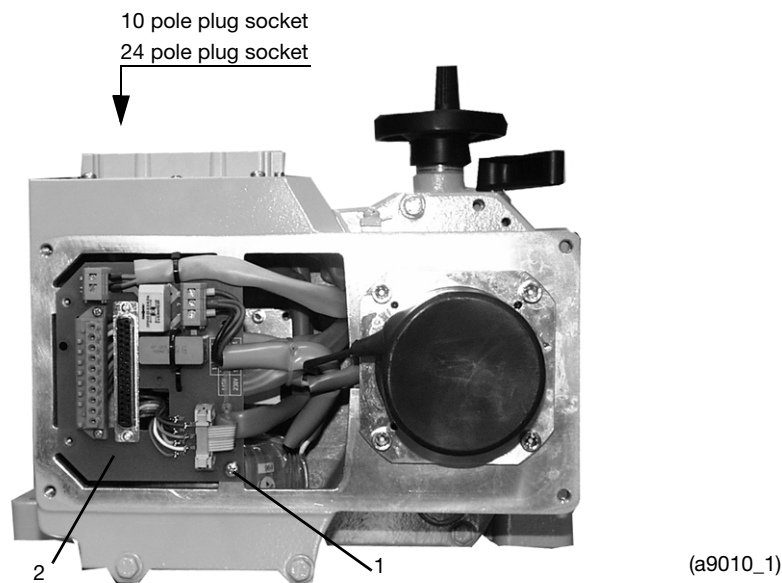

Fig. 9: Back of actuator with dismantled electronics
- loosen screws (1) of connector pcb (2) and push pcb aside to get access to the contacts (refer to fig. 9)